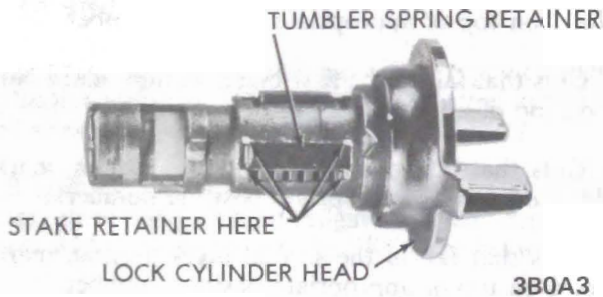

Figure OA-3 - Installing Spring Retainer
3. Reverse the lock cylinder so that the head of the cylinder is now toward you. Insert the spring retainer so that the two end prongs slide into the slots at either end of the cylinder. Press the retainer down. See Figure OA-3.